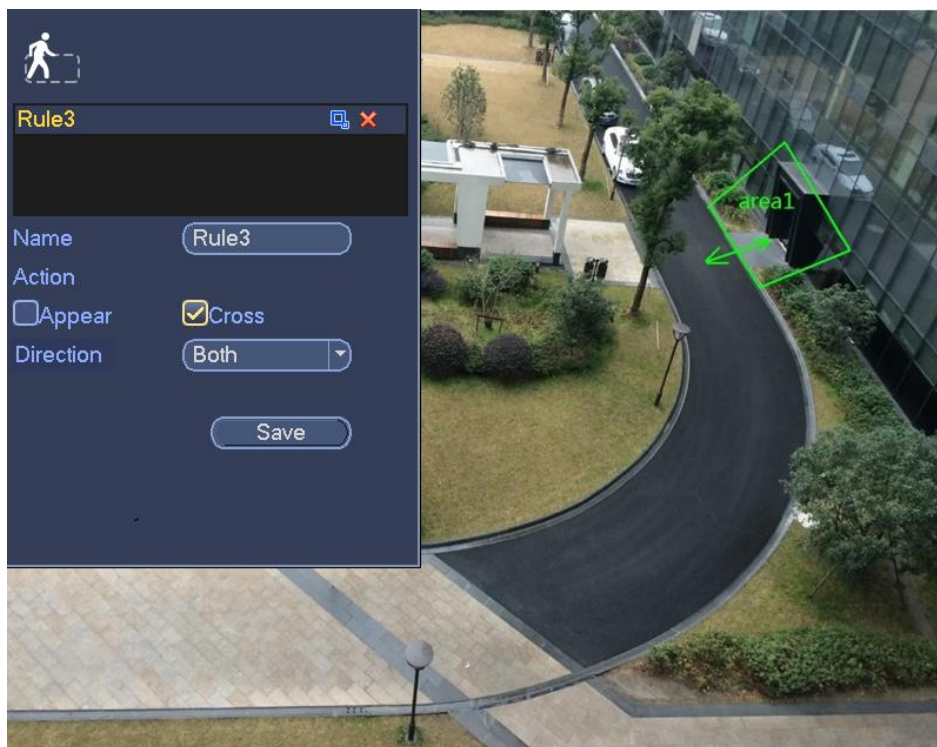

Figure 4-164
1. Click draw button to draw the zone. See Figure 4-164.